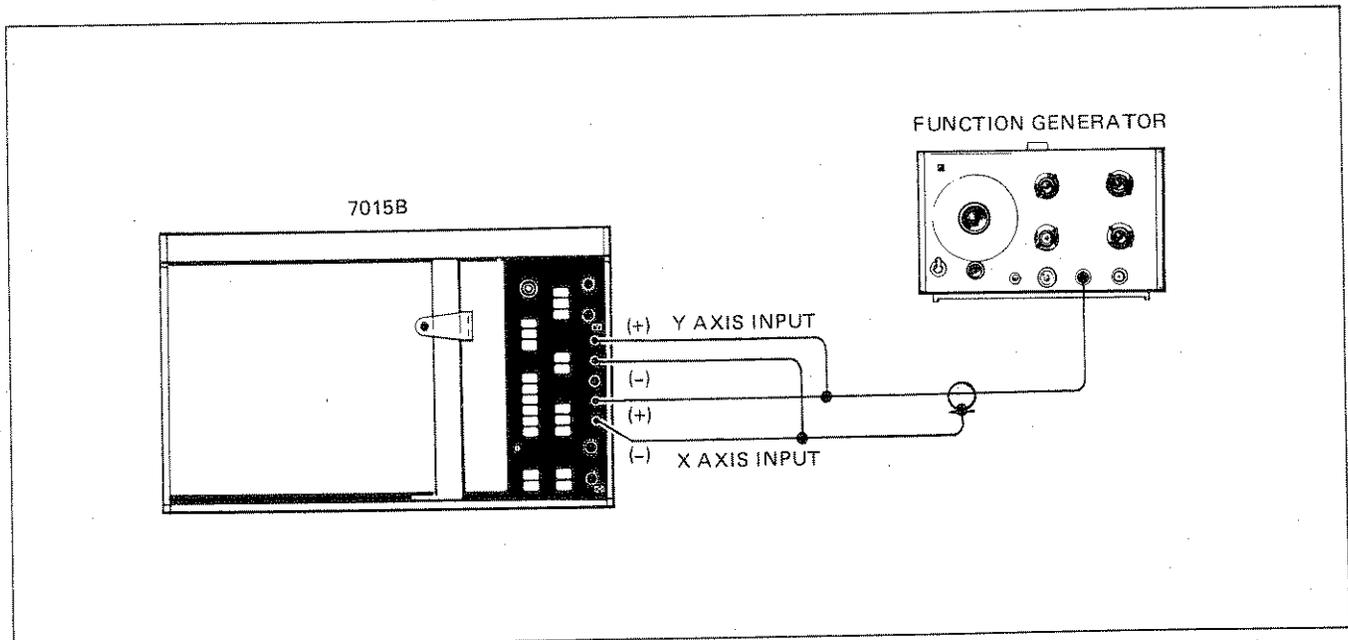

Figure 5-6. Phase Calibration Connection
- c. Connect HP Model 3310A Function Generator to recorder inputs as shown in Figure 5-6.
- c. Connect HP Model 3310A Function Generator as shown in Figure 5-6.